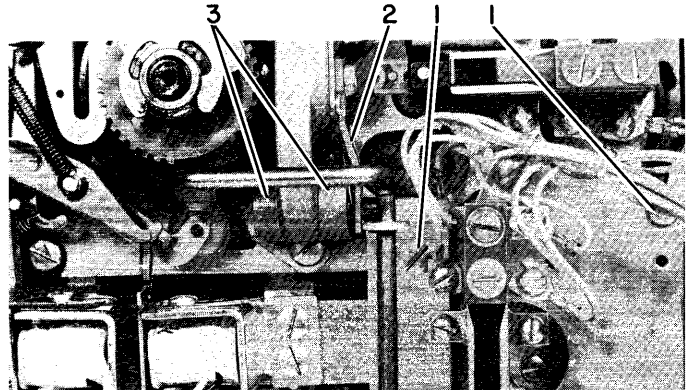

Figure 41. Shift Arm Removal
2. Remove the shift-contact assembly (#1, Figure 41).
3. Remove the shift-arm brace (#2, Figure 41).
4. Loosen the set screws that hold the shift-arm pivot (#3, Figure 41).